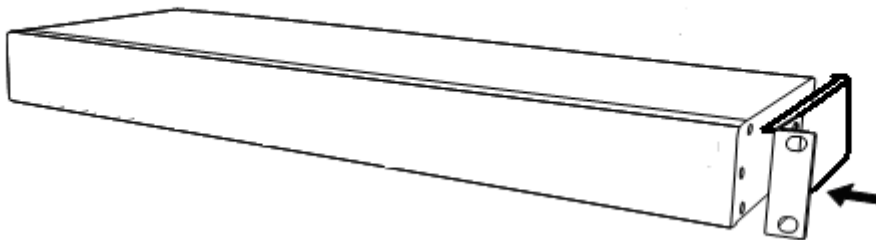
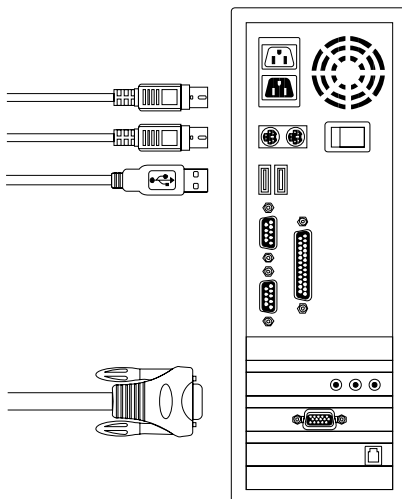

Figure 2: Rack mounting
Figure 3: USB & PS/2 (Keyboard & Mouse) and VGA connected
- A. Connect **USB, PS/2 (keyboard/mouse)** and **VGA** connectors to computers. We recommend users to connect computers in this way. (Figure 3)
- B. Use the custom combo cable set (**See Figure 1**), to connect one or more Slave KVM Switches to any PC port of Master KVM Switch. **The connection between KVM to KVM must be connected through PS/2 connection. (Please refer to Figure 2 & Figure 3).**